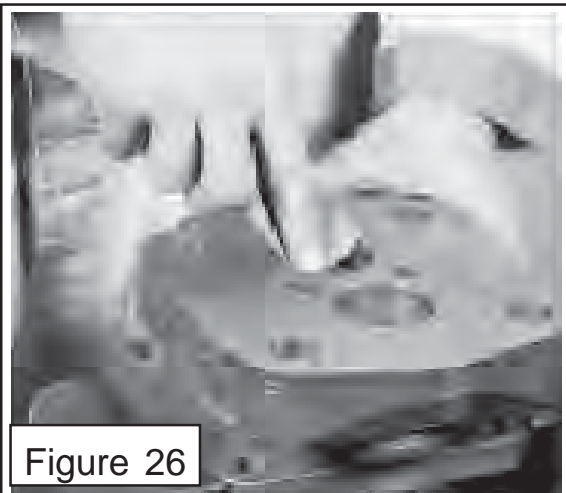

Figure 26
2. If the bushings (figure 10 item 6) were removed and new ones need to be replaced. Inspect the holes where the bushing will be pressed in. If there are burrs or rough edges at the tops of the holes they can be de-burred by using your finger and emory cloth. Keep the emory cloth on an angle and only around the top of the bore (figure 26). Do this to each hole for the bushing that are to be replaced. **IMPORTANT!** Bushing must be pressed in with an arbor press **DO NOT** drive them in with a hammer.